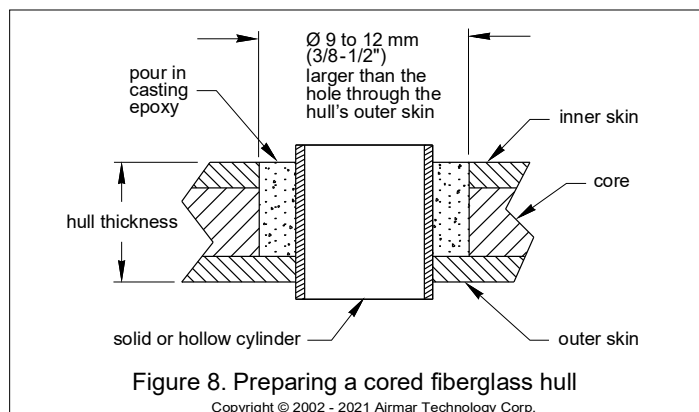

Figure 8. Preparing a cored fiberglass hull
2. Using a Ø 51mm or 2" hole saw, cut the hole from outside the hull through the *outer* skin only (Figure 8).